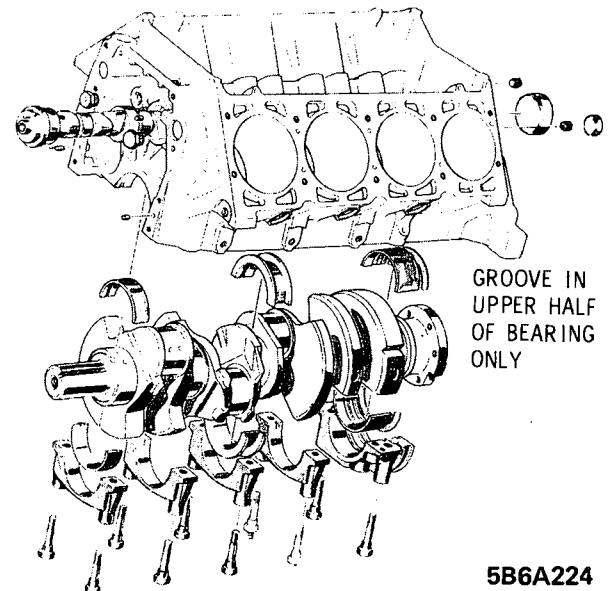

Figure 6A-213 - Crankshaft - Exploded View
2. Remove main bearing caps and lift crankshaft out of block. Figure 6A-213.